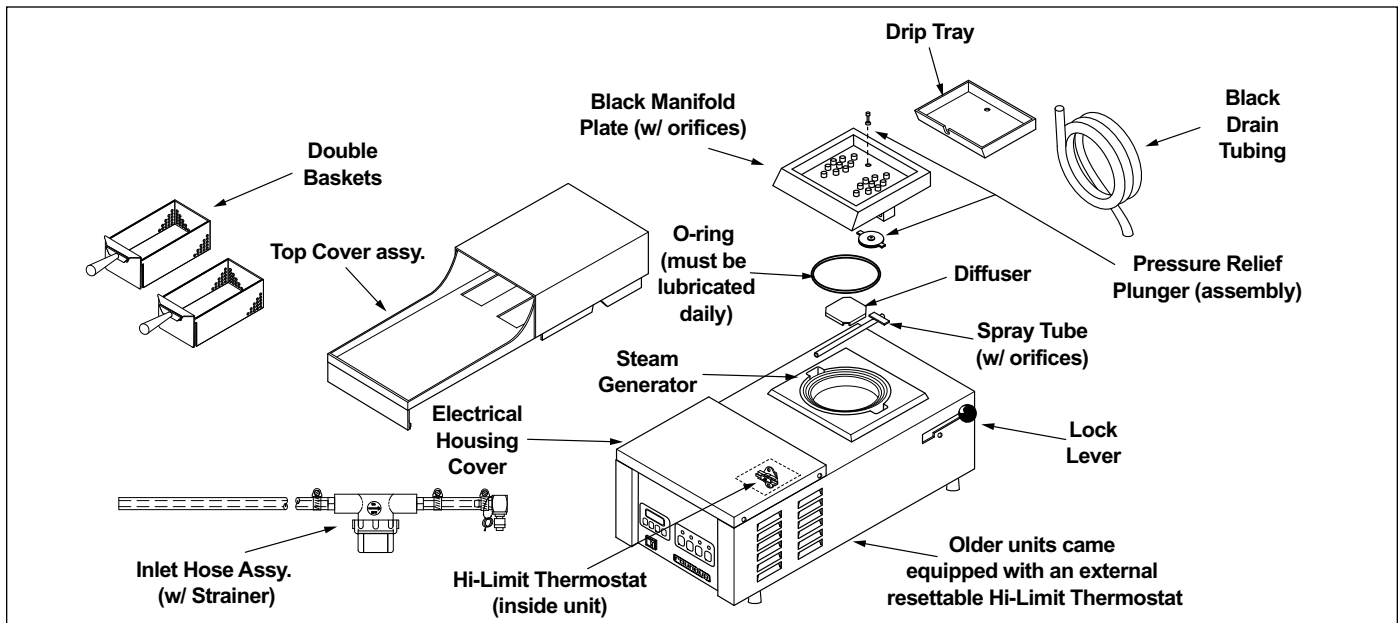

Figure 8. Variety Steamer Components & Accessories
3. With the unit cool, use a **NON ABRASIVE** brass brush and/or scraper to loosen and remove the excessive calcium/mineral deposits from the generator surface (Figure 8). Wipe the generator with a clean damp cloth. Reassemble the unit.
- Wearing protective eyewear and gloves, pour delimer solution (not supplied) onto the generator surface (Figure 8). Be sure to follow the delimer manufacturer's directions for proper mixture and use.
The Pressure Relief Plunger (Figure 8) protects the equipment and user from any harm that can result if the orifices of the Black Manifold Plate (Figure 8) has not been cleaned according to the Daily Cleaning Procedures in this manual. When the orifices become restricted or clogged, steam pressure builds up within the black manifold plate. This pressure build-up eventually forces the Pressure Relief Plunger to elevate and relieve the pressure, generating a loud "whistling" sound. If at any time this condition should occur, the unit must be cleaned according to the Daily Cleaning Procedures in this manual. Maintenance procedures are not covered by warranty.